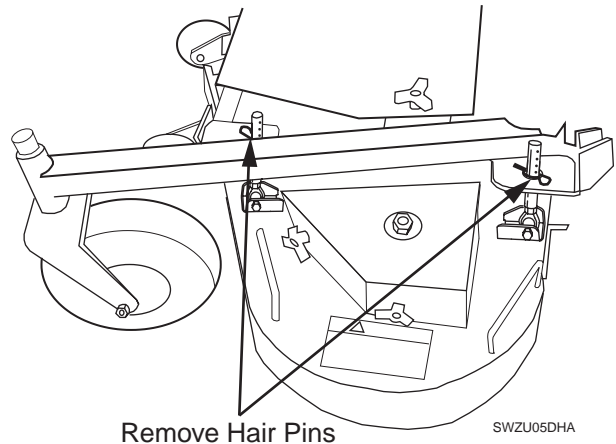

Figure 2. Cutting Height Adjustment
Changes to the cutting height can be achieved by repositioning the cutter deck. There are eight available positions from 1" to 4-1/2" (See Figure 2).
2. While holding up on the deck support handle, remove the two hairpins from the adjusting pins on one side of the cutter deck (See Figure 2).